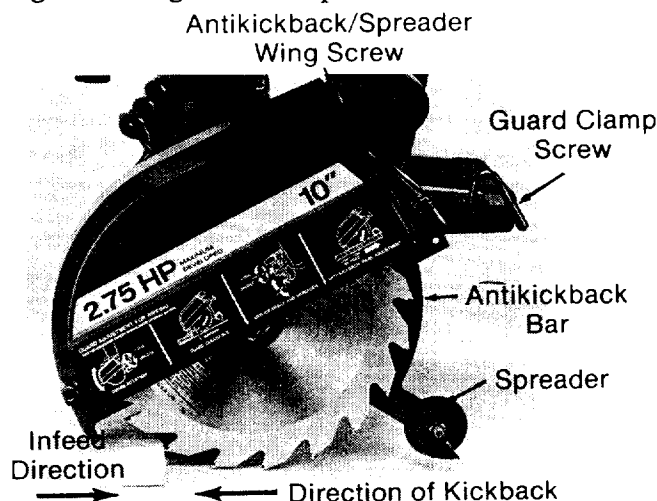

Fig. 156 Blade Guard Position for Ripping
6. Loosen the guard clamp screw and rotate the guard until the guard nose just clears the workpiece. Fig. 156.